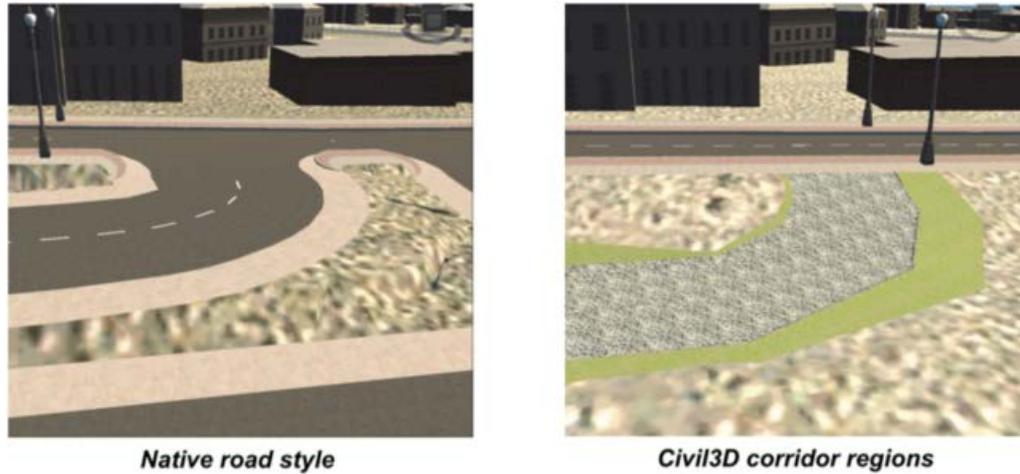
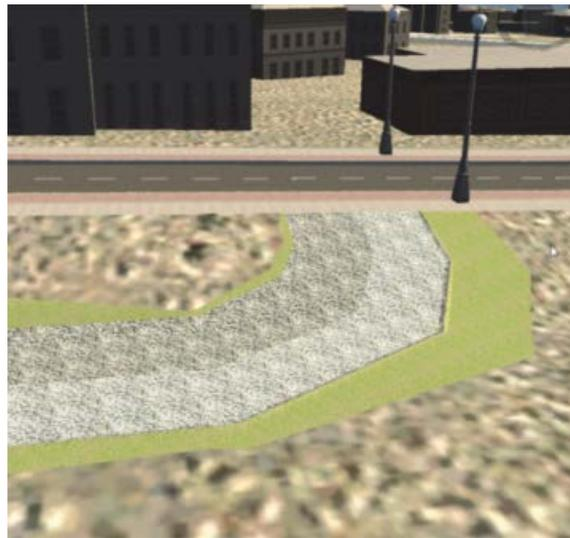

Figure 35
Figure 36
- Use Civil 3D Corridor Regions (instead of native road styles):** If the corridor surface is used to stylize the road, the surface becomes a coverage area rather than a road feature. In Figure 35, the road on the left uses the native road styles and on the right it shows the same road using the Civil3D Corridor Regions setting.
- Use corridor regions instead of top surface: This option creates a more detailed display of the road surface. The detail is sharp enough to display curbs, medians and other raised or lowered areas more clearly. Figure 36 shows the road that is shown on the right in Figure 35, but with both Road Options selected.